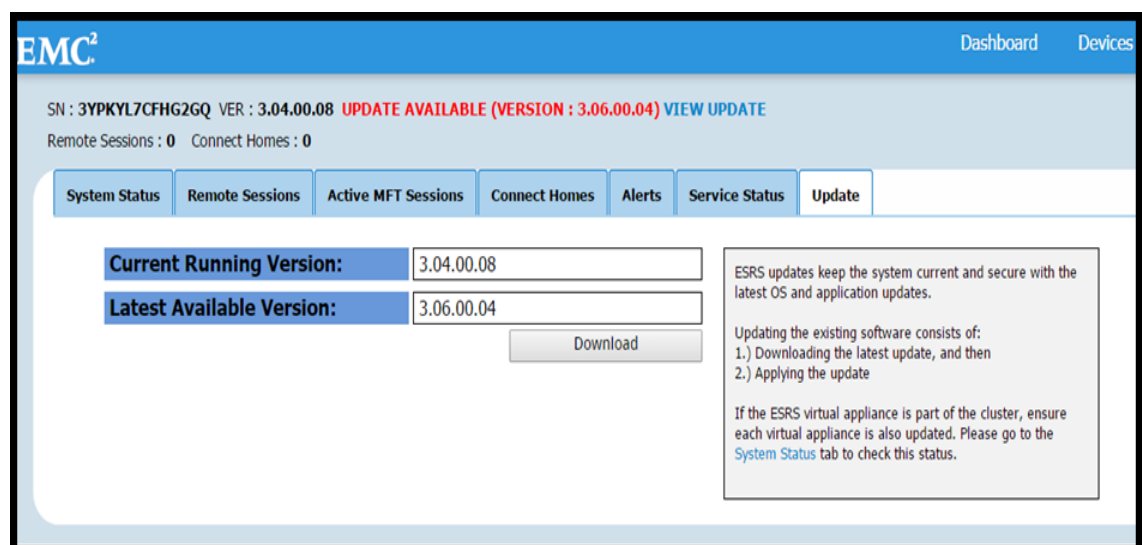

Figure 105 Update tab
2. Navigate to the Update tab. The current running version and the latest available version appears on the Update tab, as shown in Figure 105 on page 81.